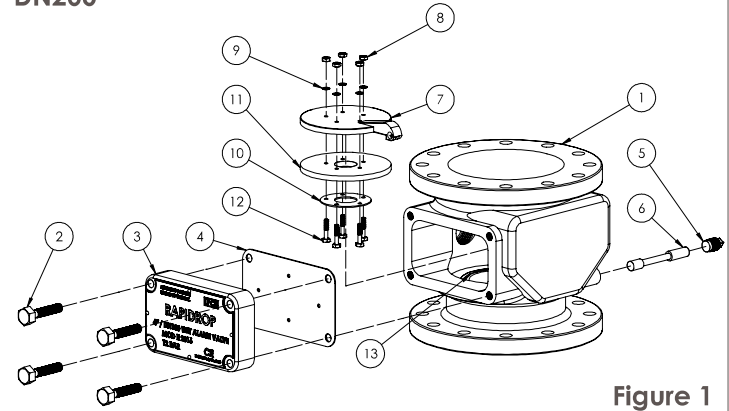

Figure 1
Maintenance (See Figure 1&2)
4. After the system is fully drained, remove the cover plate (3).
5. Remove the clapper shaft retaining plug(s) (5) and the clapper shaft (6).
6. Clean thoroughly removing any accumulated deposits. Inspect the clapper gasket (11).
7. If the clapper gasket (11) is worn or damaged, unscrew the clapper nut (8) and disassemble clapper components (7-12).
8. Replace damaged components with genuine replacement parts, and reassemble clapper as shown in Figure 1.
9. Inspect the clapper seat ring (13) inside the valve body for lodgement of dirt, bruising or scoring. Clean thoroughly if necessary.
10. A damaged clapper seat ring (13) can be carefully polished using lapping compound. If the damage is extensive then a complete new valve should be fitted.
11. After the inspection and replacement of parts, reinstall the clapper assembly (7-12) and fix it with the clapper shaft (6).
12. Lock the clapper shaft (6) with clapper shaft retaining plug(s) (5) and reinstall cover plate gasket (4) and cover plate(3).